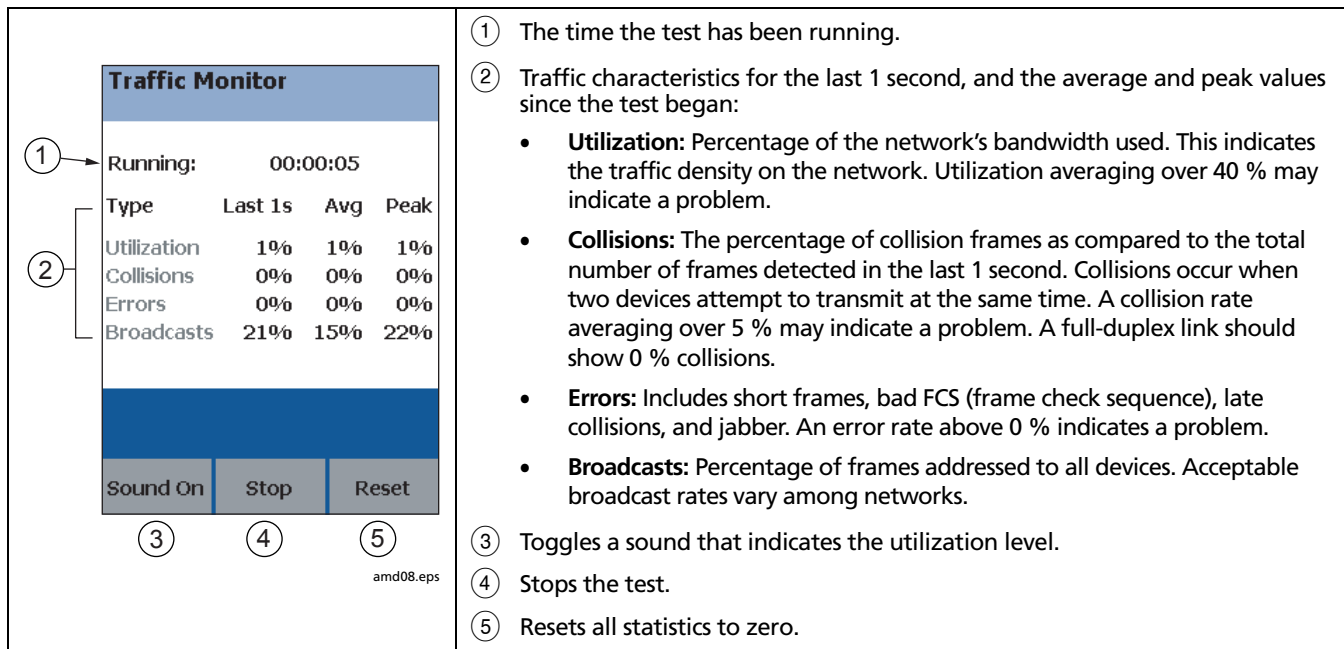

Figure 11-7. Traffic Monitor Screen
- 3 When the test is complete, press **F1** **Traffic**. Figure 11-7 describes the traffic monitor screen.